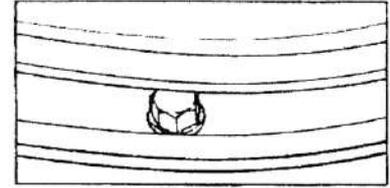

Figure 4
5. Place a nut or similar object between the flange and the lip of the bead seat band. (See Figure 4)